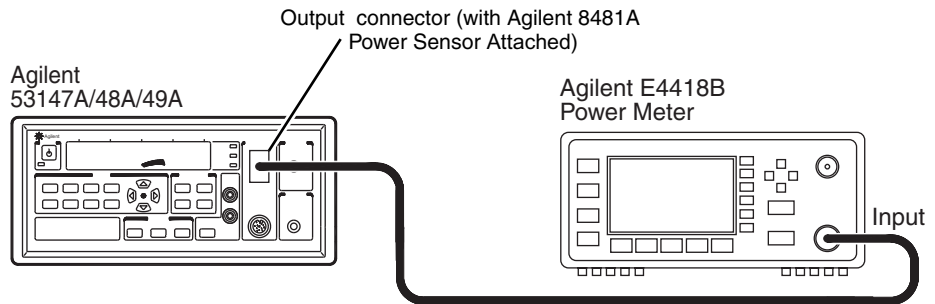

Figure 2-5. Power Meter Reference Level Test Setup
- 6 Disconnect the Agilent 8481A Power Sensor from the Agilent E4418B Power Meter, and immediately connect it to the Power OUTPUT connector on the Agilent 53147A/48A/49A (see Figure 2-5).